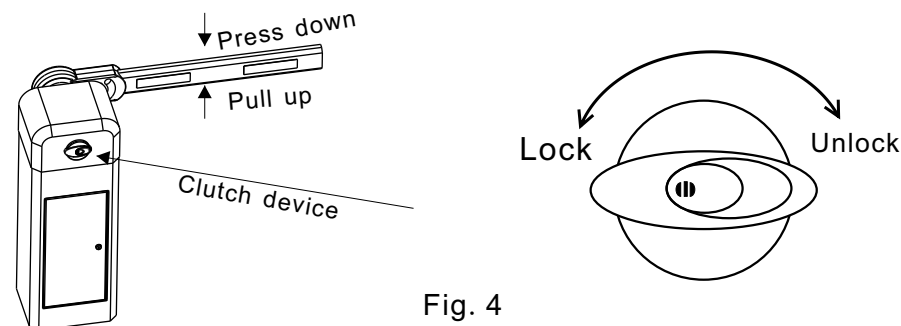

Fig. 4
7. 1. 3) Unlock the clutch device with the clutch key clockwise. Move the boom to the horizontal and vertical position manually to make sure there is no obstruction. Then turn on the power (refer to the Fig. 4)
(G) The method to lock up unlock the clutch device. The clutch can not be unlocked. Insert the clutch key and rotate it clockwise to unlock it, and the anticlockwise to lock it. If the clutch device could not been locked up or unlocked easily, please pull up or pull down the boom by hand lightly. (Refer to Fig. 4)